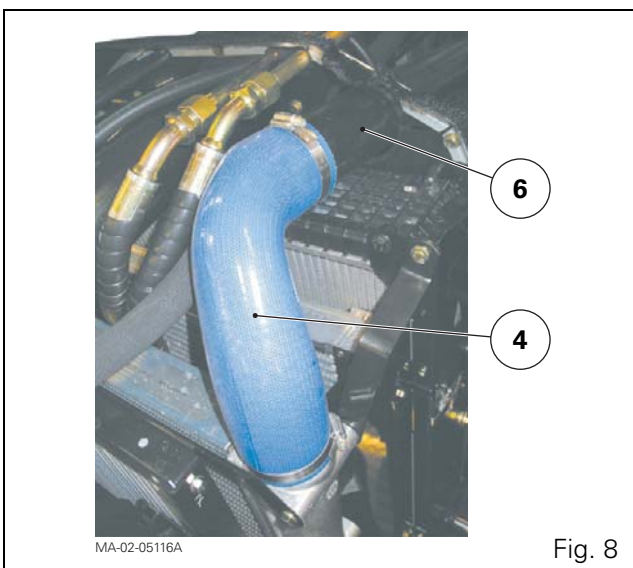

Fig. 8
- the sleeve (4) and the rigid air sleeve (6) of the air cooler outlet (Fig. 8);